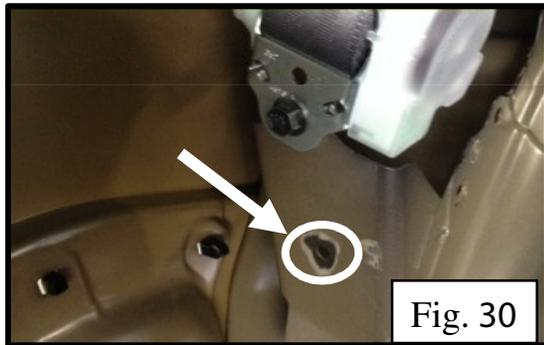

Fig. 30
16. Using grinder or scraper remove paint off metal at ground connection point (white circle/arrow). Size of removed area should be at least as large as lock washer from hardware kit (Fig.30).